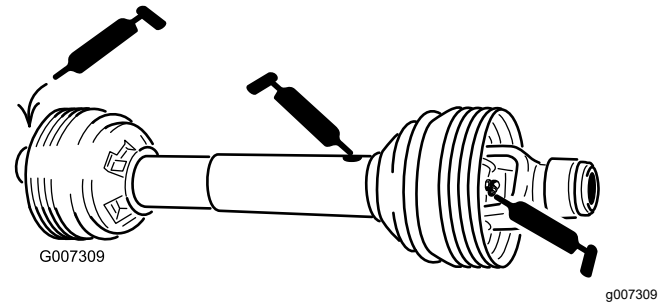

Figure 27
PTO driveshaft (3) (Figure 27)